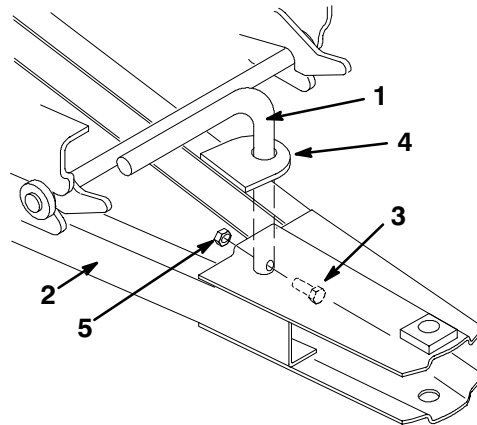

Figure 5
8. Install the stabilizer arm down through the guide on the frame (Fig. 5).
9. Insert a 5/16 x 1-1/4 in. (32 mm) bolt through the hole in the stabilizer arm and secure it with a 5/16 in. nut (Fig. 5).
10. Ensure that the stabilizer arm slides up and down freely in the hole in the frame (Fig. 5).
2. Lock the stabilizer in place with the latches (Fig. 5).